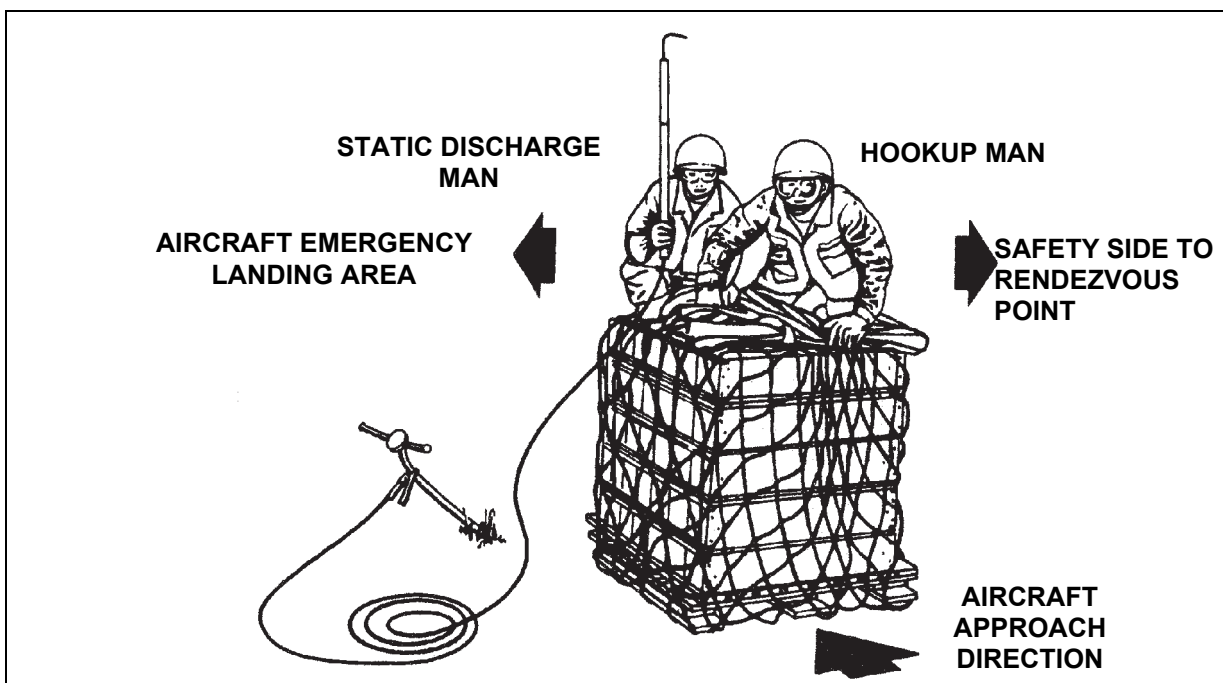

Figure 5-4. Hookup Team Position
- Hookup Team Procedures.** Hookup team personnel should kneel down, brace themselves, and hold securely to the load because of the rotor wash. The hookup man will have the apex fitting/web ring in his hands ready for hookup. The static wand person will hold the static discharge wand so that the red line or the **DO NOT HOLD** area is above the hookup team's helmets, as in figure 5-4.